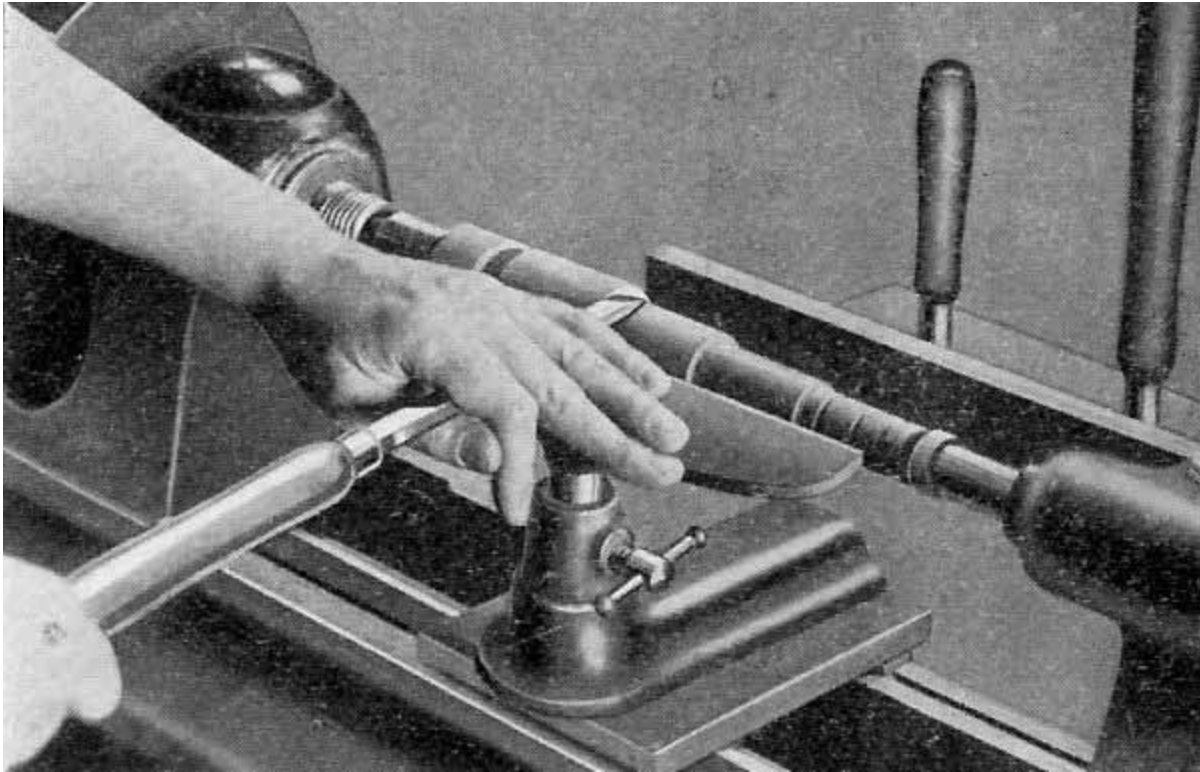

Fig. 10.
6. The new diameter or step is then trued up with a skew chisel in the same manner as a cylinder; except that in nearing the shoulder the chisel is pushed up on the cylinder until the heel, which is the only part that can be worked into the corner, becomes the cutting point. Fig. 10. In very narrow steps it will be advisable to use the heel entirely as a cutting point.